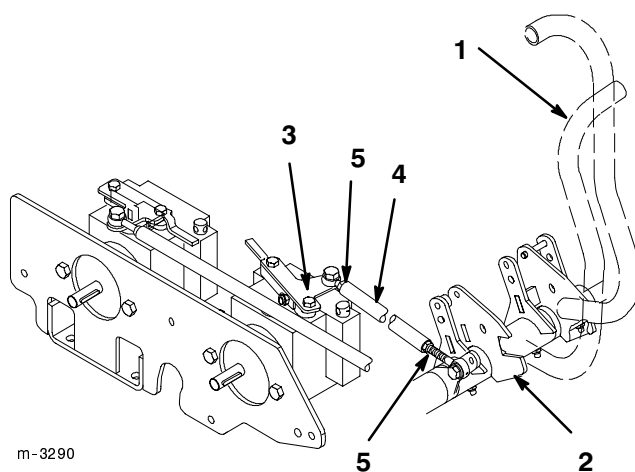

Figure 80
1. Loosen jam nuts on pump control rod (Fig. 80).
2. Push and firmly hold motion control lever against forward stop (Fig. 80).
3. Rotate pump control rod until pump control plate is in the full forward position (Fig. 80). Motion control lever will lift off forward stop.
4. Rotate control rod 1 turn, to lengthen rod, and tighten jam nuts (Fig. 80).